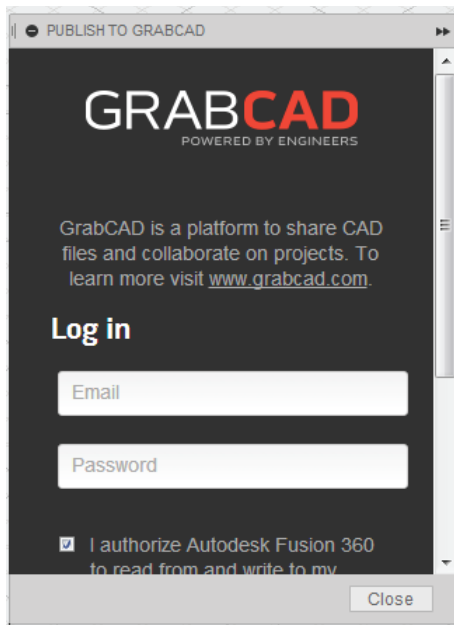

Figure-33. PUBLISH TO GRABCAD dialog box
- Click on **Publish to GrabCad** tool from **Share** cascading menu. The **PUBLISH TO GRABCAD** dialog box will be displayed; refer to Figure-33.